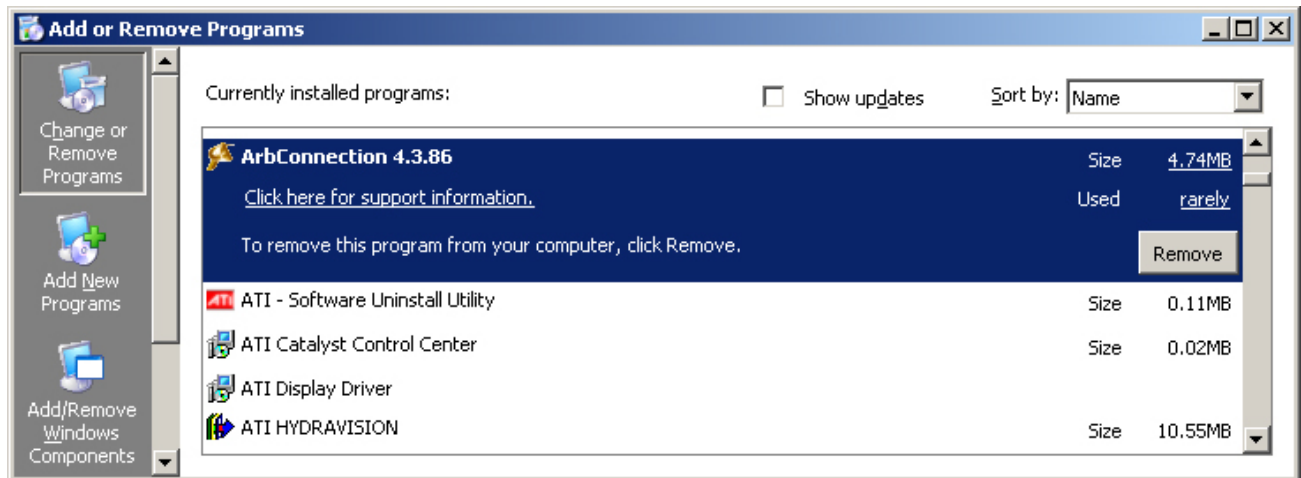

Figure 2-16: Removing ArbConnection Software
1. Go to “Add or Remove Programs” on the Control Panel of your PC and select “ArbConnection 4.3” as shown in Figure 2-16.